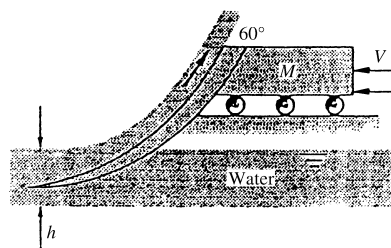

Fig. P3.108
**3.108** A rocket sled of mass  $M$  is to be decelerated by a scoop, as in Fig. P3.108, which has width  $b$  into the paper and dips into the water a depth  $h$ , creating an upward jet at  $60^\circ$ . The rocket thrust is  $T$  to the left. Let the initial velocity be  $V_0$ , and neglect air drag and wheel friction. Find an expression for  $V(t)$  of the sled for (a)  $T = 0$  and (b) finite  $T \neq 0$ .